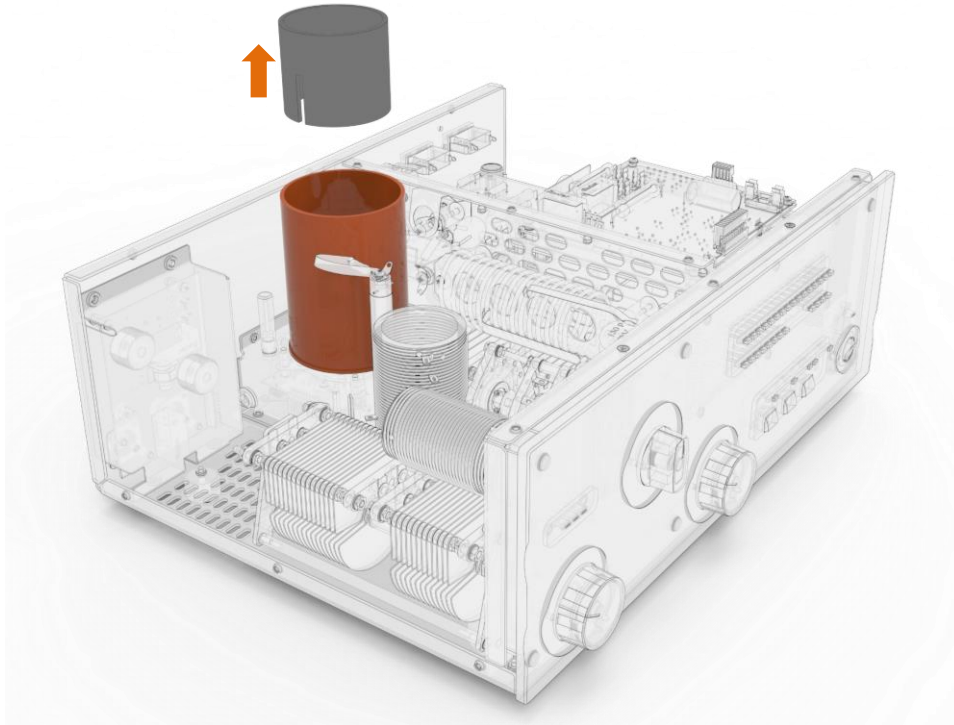

Figure 2-4 | ACOM 1010 Internal transport protective element removal
- Pull out the protective element upward as shown in Figure 2-4 | ACOM 1010 Internal transport protective element removal;